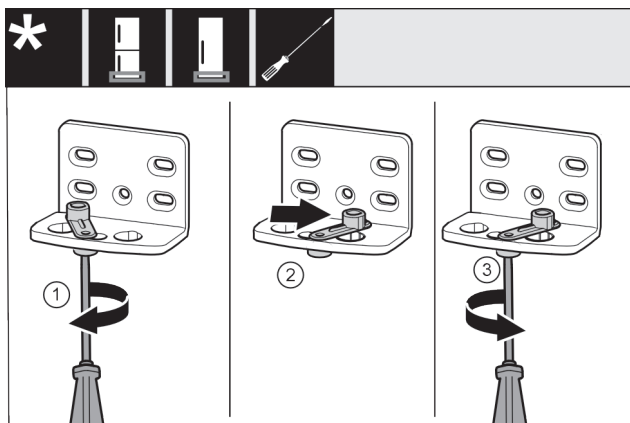

Fig. 16
- Use screwdriver to loosen the screw Fig. 16 (1).
- Lift the door closing aid Fig. 16 (2) and turn 90° clockwise in the hole.
- Tighten screw Fig. 16 (3) with screwdriver.